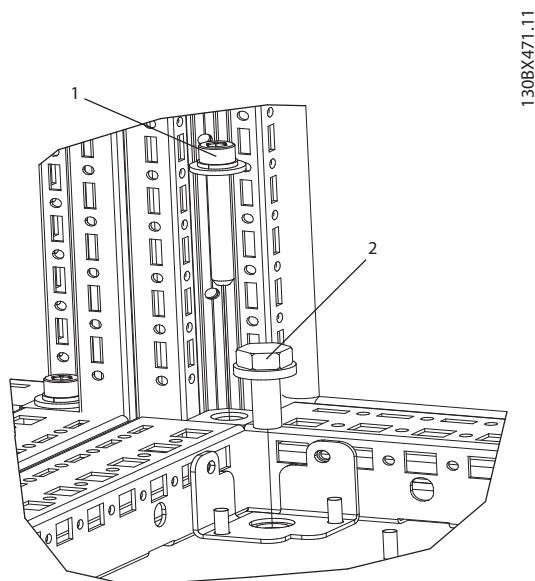

Figure 5.30 Fastener Location Detail
2. Install each M8x60 mm bolt with lock washer and flat washer through the frame into the threaded hole in the base. Install four bolts per cabinet. Refer to *Figure 5.30*
3. Install each M10x30 mm bolt with captive lock washer and flat washer through the base plate and into the threaded hole in the base. Install four bolts per cabinet. Refer to *Figure 5.30*
Table 5.24 Legend to Figure 5.30